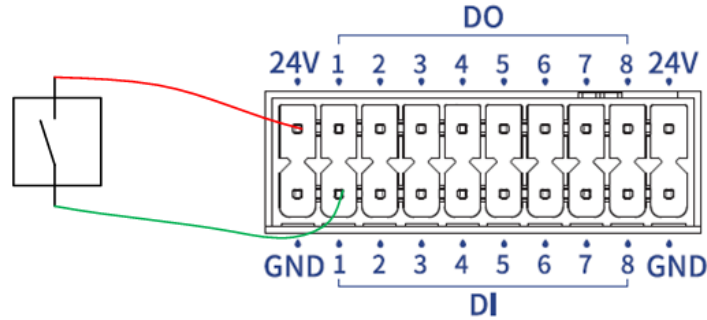

Figure 6.10 DI wiring (simple switch)
1. When you use an external simple circuit as the DI input, the wiring is shown in Figure 6.10.